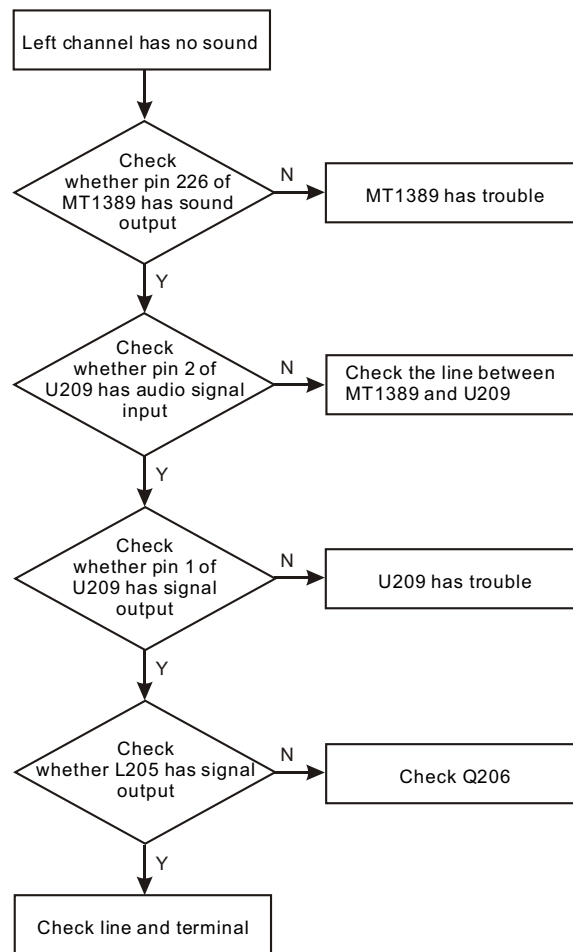

Figure 3.2.2.4 Troubleshooting flow chart for “Left channel has no sound”
5. Troubleshooting process for “Power not on” is shown in he figure 3.2.2.5: